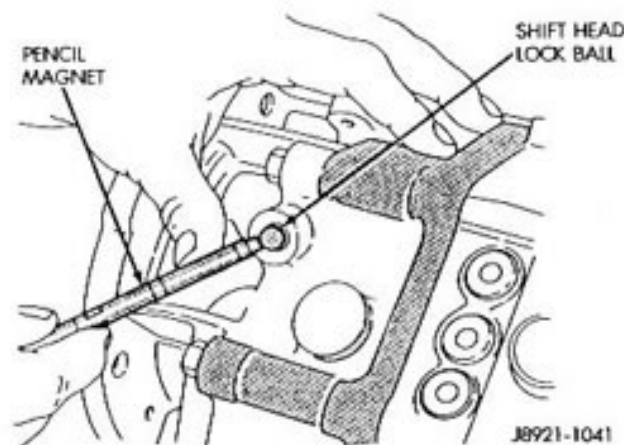

Fig. 11 Removing/Installing Shift Head Lock Ball
(12) Remove the shift head lock ball with a pencil magnet (Fig. 11).
(13) Remove the backup light switch from the adapter/extension housing.
(14) On 2-wheel drive models, remove the speedometer driven gear assembly if not removed previously.